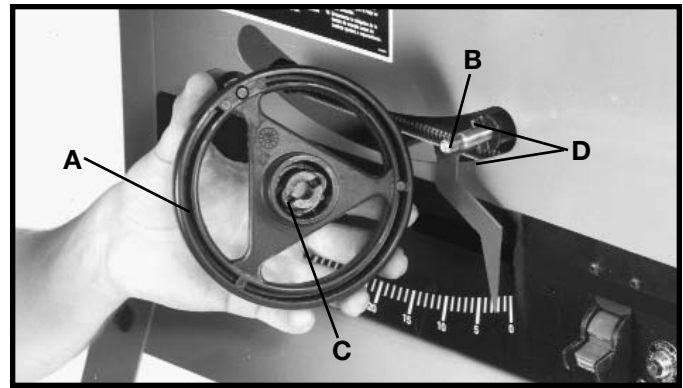

Fig. 7
1. Assemble the blade raising handwheel (A) Fig. 7, to the blade raising shaft (B). Make sure the slots (C) in the hub of the handwheel are engaged with the roll pin (D) on the shaft.